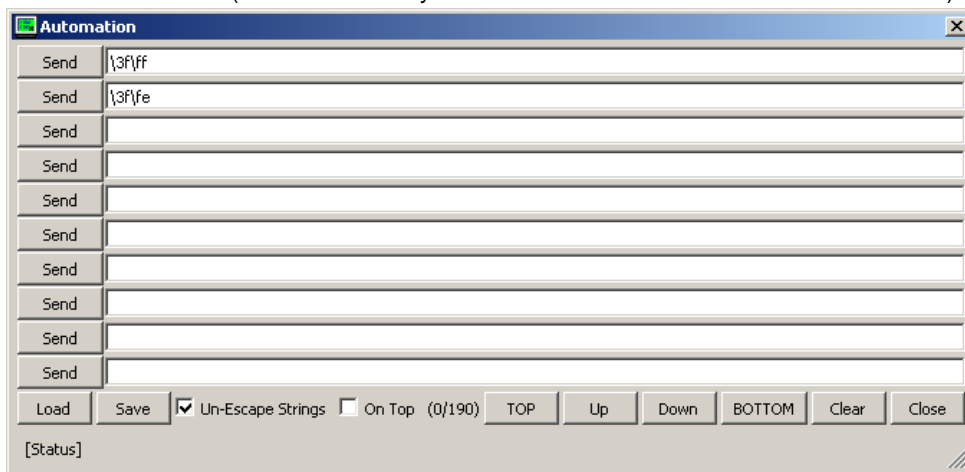

Figure 17: Automation dialogue
4. In the following screen, modify the fields as shown in Figure 17.